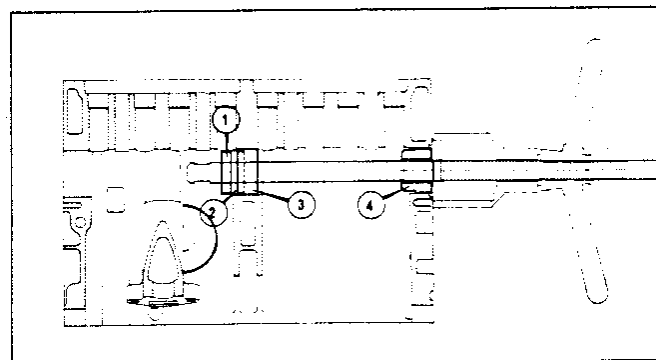
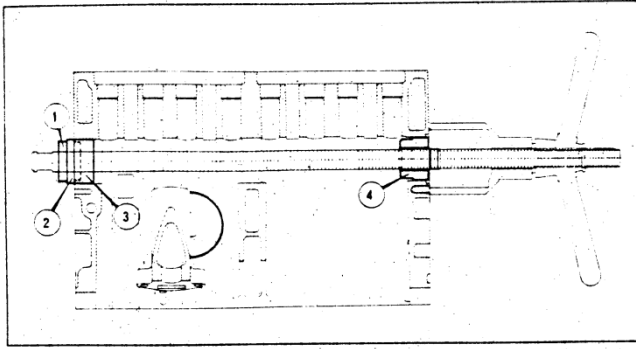

Figure 20 Removing camshaft centre bearing
Figure 21 Removing camshaft front bearing
- (c) To remove centre and front camshaft bearings position the general tool and components as shown in **Figure 20** and **Figure 21**.